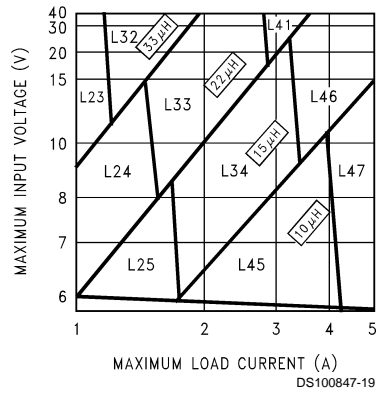
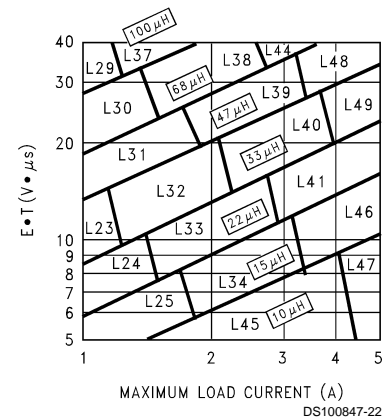

FIGURE 3. LM2679-3.3
FIGURE 6. LM2679-ADJ
Step 3: Determine the inductor required by using one of the four nomographs, *Figure 3* through *Figure 6*. Table 1 provides a specific manufacturer and part number for the inductor.
Step 5: Determine an input capacitor from Table 4 for fixed output voltage applications. Use Table 2 to find the specific capacitor type. For adjustable output circuits select a capacitor from Table 2 with a sufficient working voltage (WV) rating greater than $V_{in\ max}$, and an rms current rating greater than one-half the maximum load current (2 or more capacitors in parallel may be required).
Step 3: Use the nomograph for the 3.3V device, *Figure 3*. The intersection of the 16V horizontal line ($V_{in\ max}$) and the 4A vertical line ($I_{load\ max}$) indicates that L46, a 15 μ H inductor, is required.
Step 3: To use the nomograph for the adjustable device, Figure 6, requires a calculation of the inductor Volt•microsecond constant ($E \cdot T$ expressed in $V \cdot \mu\text{s}$) from the following formula:
Using Figure 6, the intersection of 27V• μs horizontally and the 3.5A vertical line ($I_{load \text{ max}}$) indicates that L48, a 47 μH inductor, or L49, a 33 μH inductor could be used. Either inductor will be suitable, but for this example selecting the larger inductance will result in lower ripple current.
Important Note: When using the adjustable device in low voltage applications (less than 3V output), if the nomograph, Figure 6, selects an inductance of 22 μH or less, Table 6 does not provide an output capacitor solution. With these conditions the number of output capacitors required for stable operation becomes impractical. It is recommended to use either a 33 μH or 47 μH inductor and the output capacitors from Table 6.